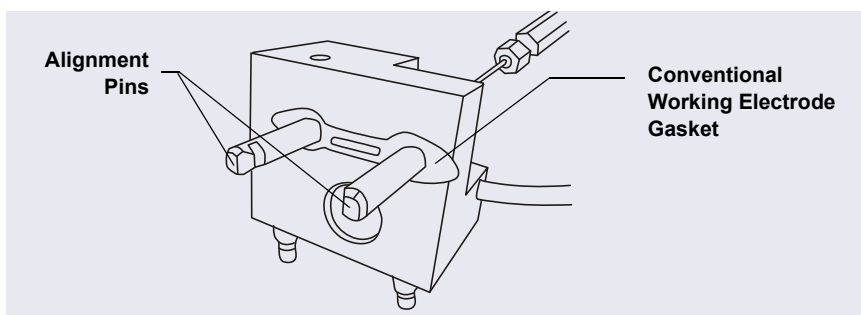

Figure 9-56. ED Cell Gasket for Conventional Working Electrodes
- Use tweezers to remove the old cell gasket from the cell body (see Figure 9-56).